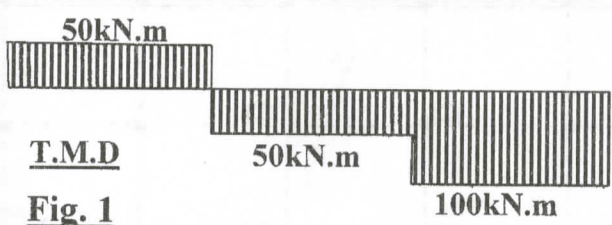

Fig. 1
- Fig. 1 shows a plan of beam with cantilever ABC that carry a cantilevers DE and CF. Each cantilever carry the same ultimate loads, $P_u = k\text{kN}$. The supports A and B are restrained against rotation about Z axis. The torsional moment diagram (T.M.D) due to the applied loads is given in the figure neglecting the beams own weight. It is required to draw B.M.D and S.F.D for the main beam ABC. (4Marks)